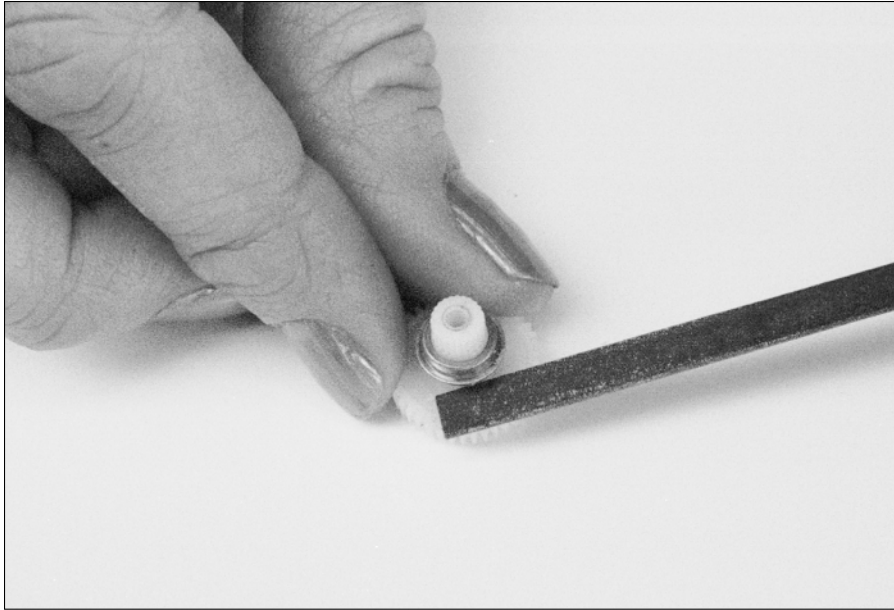

Figure 15-16:
9. File down the small portion of the ridge that you're stuck with, no matter what cutting technique you use; do this filing with a small, flat file (see Figure 15-16).